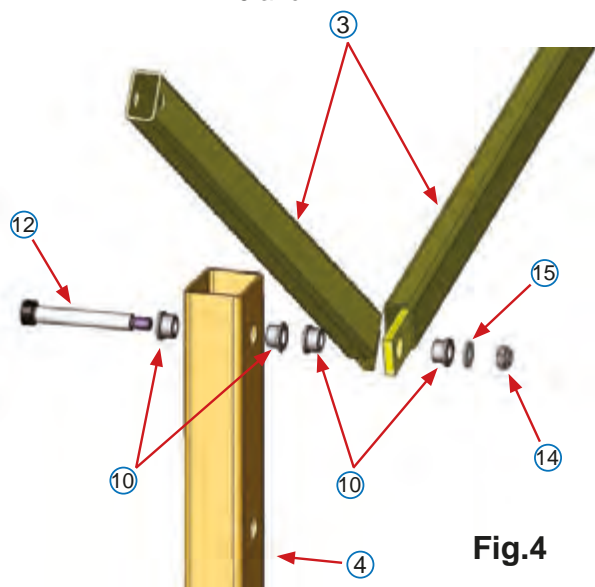

Fig.4
- The bearing blocks d.16 -Nb 10 – in the flat part of the arms -Nb 3- and in the central perforations of the beams -Nb 2- and in the grounds -Nb 4- (check the sens of the bearing blocks on fig. 4 and 5).